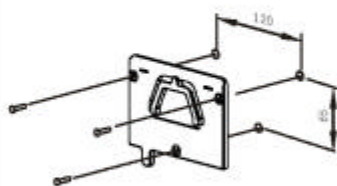

Fig. 1
1. Make three circular holes (120 × 65) on the wall according to dimensions shown the figure. (If the is an existing switch box, this step can be skipped.) And then screw the remote control socket to the wall. (Fig. 1)